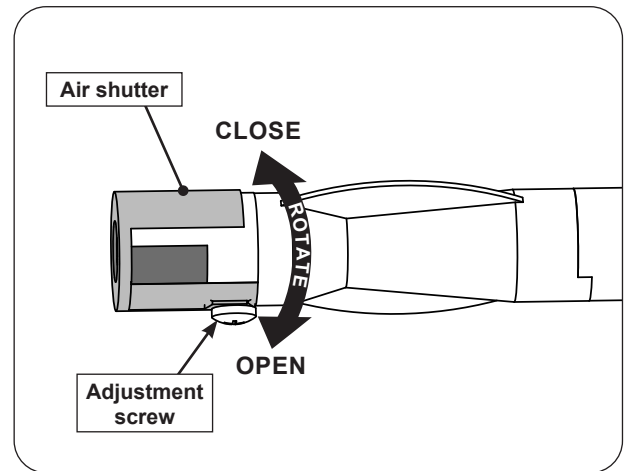

Fig. 53-1 Double side burner air shutter adjustment detail
2. Loosen the adjustment screw with a screwdriver, then carefully rotate the shutter to open or close it. See Fig. 53-1 for details.